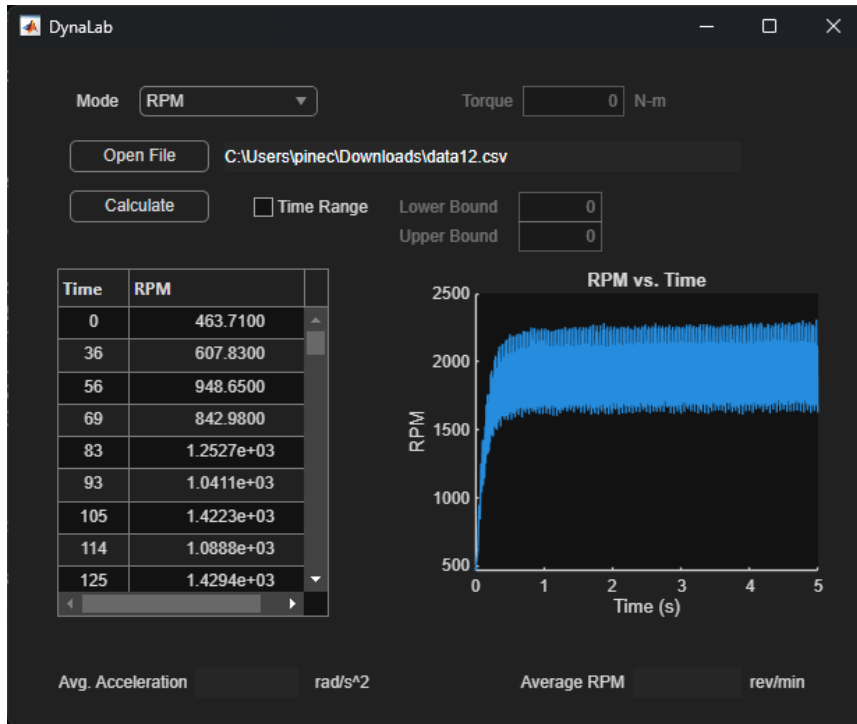

Figure 14: DynaLab with sample data.
3. Verify data was correctly loaded into the table and graph. A sample of RPM data is shown in Figure 14.
It is worth noting that the calculated values are *very* sensitive to the time range over which they are calculated. For example, average acceleration calculated over the full range in Figure 14 will be much lower than if it were calculated over only the first second.
This mode simply calculates the average shaft speed over the specified time range. For the most accurate steady state speed, a range after acceleration (upward sloping region at the beginning) should be examined. For example, the range from $t=3$ to $t=5$ seconds in Figure 14 would be averaging the values after it has stopped accelerating.